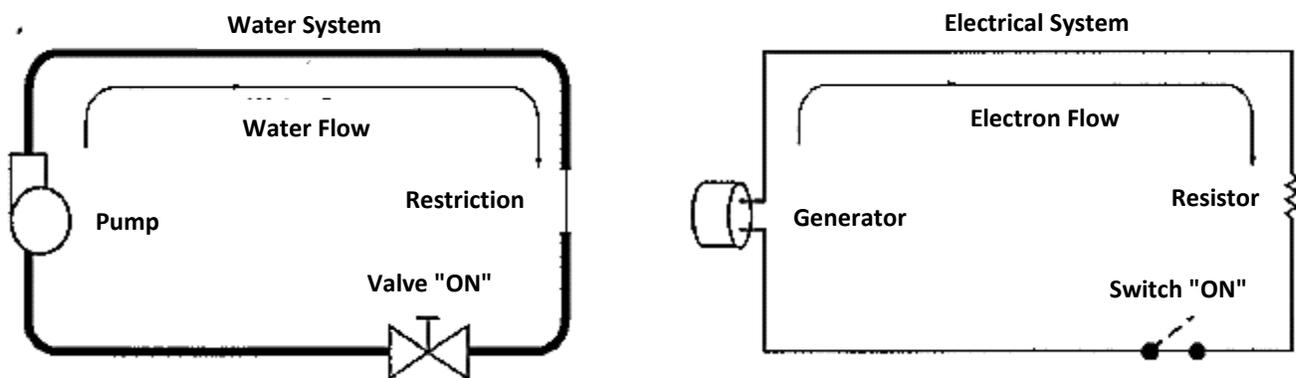

Figure 8.1: Comparison of a Water System and an Electrical System
- 8-3 To help you "see" how a simple dc circuit works, you can compare it to a simple water system. In the water system, a pump produces a difference in pressure between its intake and outlet ports. If a continuous pipe connects the two ports, leading through a restriction, the difference in pressure makes water flow, as shown on the left in Figure 8.1.
- 8-4 In an electrical circuit, a generator may be used to produce a difference in potential between its positive and negative terminals. If a continuous conductor connects the two terminals, leading through a resistor, the difference in potential makes electrons flow as shown at the right in Figure 8.1.